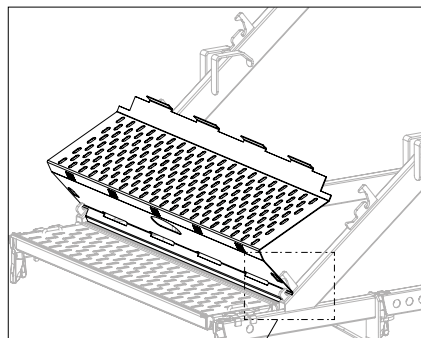

Fig. A2.08b
3. Tilt the step towards the stair stringer and into the upper supports. Make sure that the hooks (**11.2**) engage in the slots (**12.1**) on both sides. (Fig. A2.08b + Fig. A2.08c)
Do the locating hooks (**11.2**) engage in the slots (**12.1**) of the riser? (Fig. A2.08b)